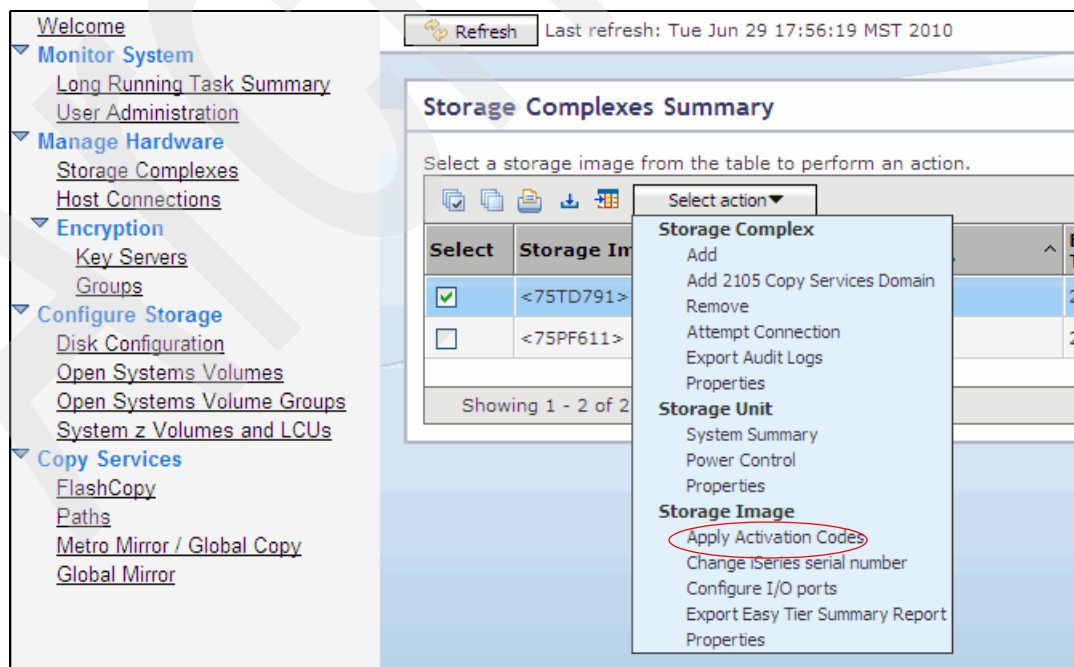

Figure 10-10 DS8700 Storage Manager GUI: Select Apply Activation Codes
1. In the My Work navigation pane on the DS Storage Manager Welcome window, select **Manage hardware** → **Storage Complexes**, and from the drop-down Select action menu, click **Apply Activation Codes** in the Storage Image section, as shown in Figure 10-10.